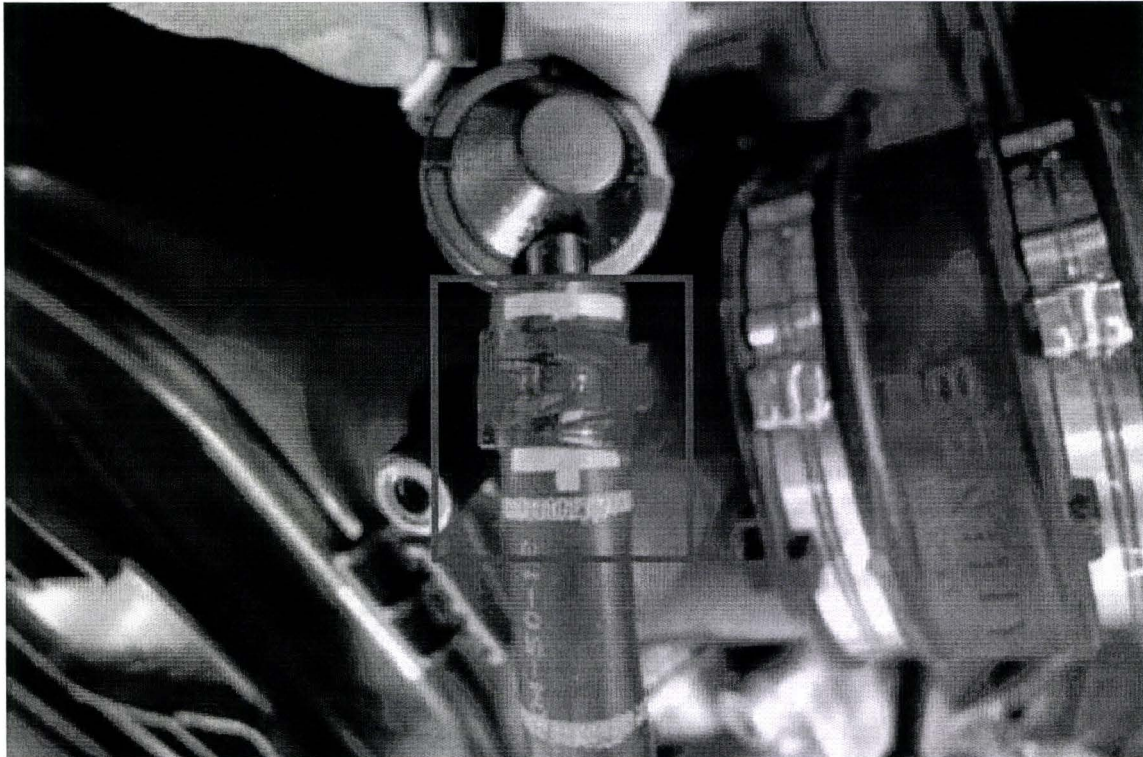

Figure 5
- Ensure the rearmost springband clip (N906 867 01) is positioned and secured as shown in Figure 5 with the clip lined up in between the yellow timing marks